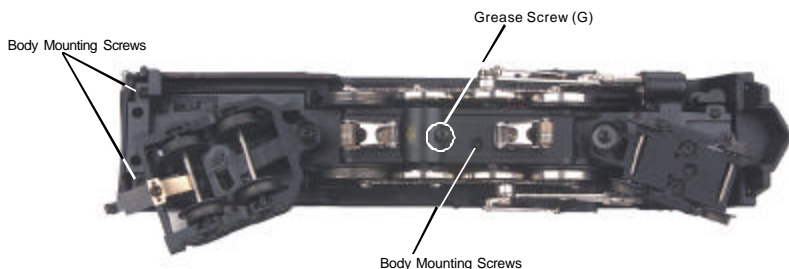

Figure 6: Removing The Body
2. Remove the Phillips screw (marked “GREASE”) shown in Fig. 6.
You should also grease the leading and trailing locomotive truck tongues to enhance their ability to slide on the chassis. Follow the grease points shown on Fig. 6.
If you experience poor or no smoke output when the smoke unit is on and has fluid, check the wick to see if it has become hard, blackened, and unabsorbent around the heating element. To remove the smoke unit you will first have to remove the boiler shell (by removing the body mounting screws shown in Fig. 6 on pg. 13), board and bracket that block the smoke unit assembly from being accessed. To do this, follow these instructions: